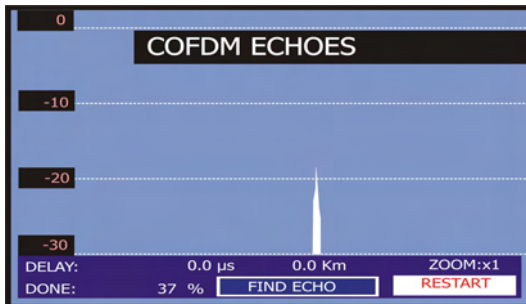

Figure 50.- Finding ECHOES.
2. Press the rotary knob to start finding (Figure 50.-).